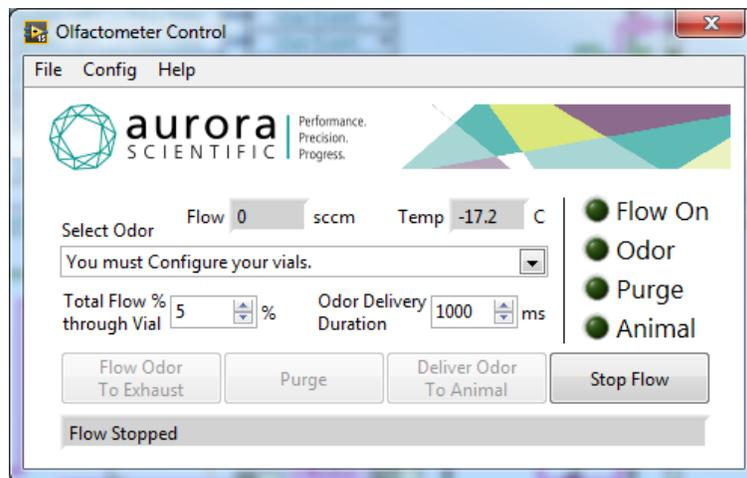

Figure 3: Initial Startup
Once the software is launched for the first time, the user must first configure the vials. See message in **Select Odor** text box shown in Figure 3.
- a) On the Home window (Figure 3) click on the drop down arrow next to the **Select Odor** box.